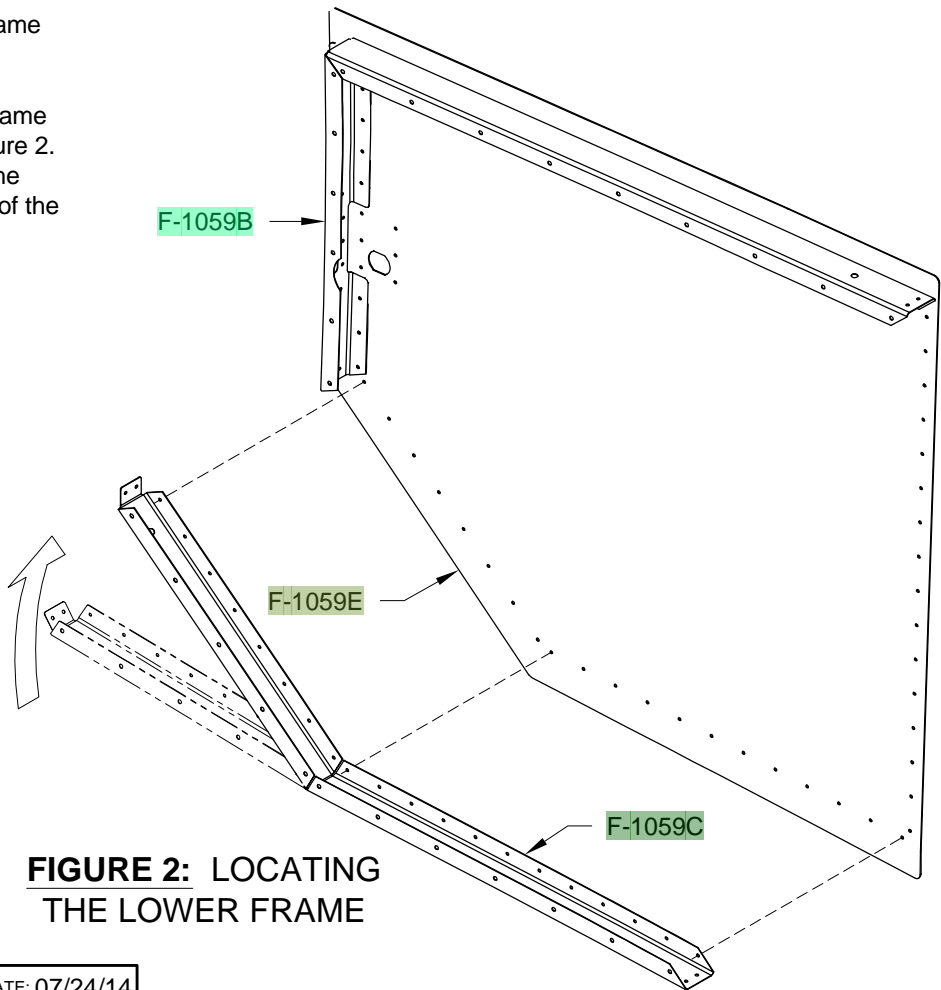

FIGURE 2: LOCATING THE LOWER FRAME
Step 3: Bend the F-1059C Lower Frame by hand as shown in Figure 2.
Step 4: Cleco the F-1059C Lower Frame to the F-1059E Skin as shown in Figure 2. Cleco the tab on the lower frame to the inside (between the flanges) surface of the F-1059B Upper Frame web.